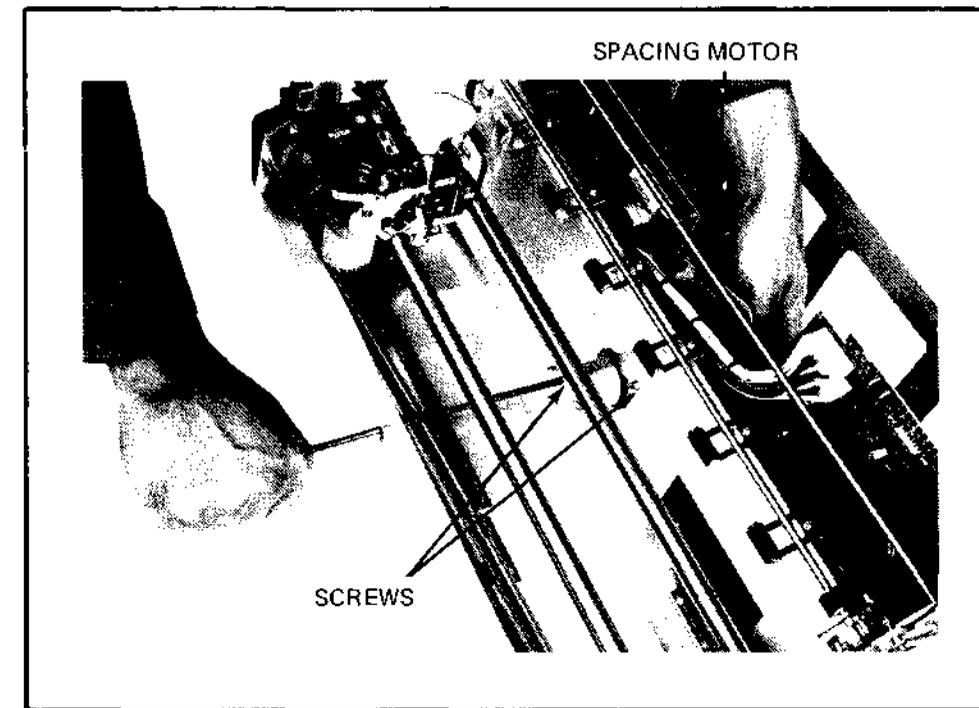

Figure 4-18 Spacing Motor Removal
- k. Remove the spacing motor assembly by removing two screws illustrated in Figure 4-18.